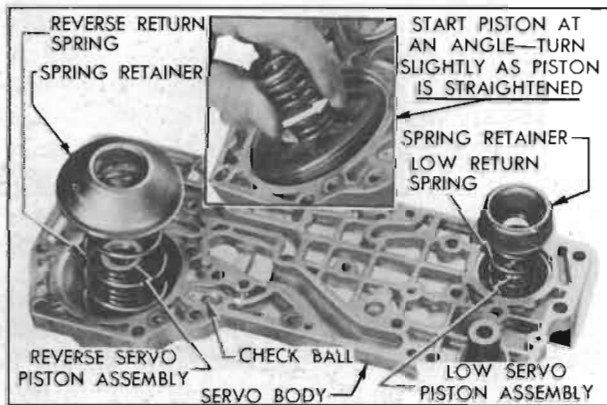

Figure 4-101—Parts Installed in Servo Body
4. Remove reverse and low servo piston spring seats, springs and pistons. Remove check ball from reverse servo feed channel. See figure 4-101.
1. Oil and install the low and reverse servo piston assemblies in servo body. To avoid curling or damaging edge of piston seal, start each piston into cylinder at an angle then turn piston slightly as it is straightened and pushed into cylinder. See figure 4-101. Check pistons for free movement in cylinders.
2. Install the small return spring with small end against the low servo piston. Install the large return spring with the large end against the reverse servo piston. Place spring seats on upper ends of both springs. See figure 4-101.
3. Place check ball in reverse servo feed channel. See figure 4-101.